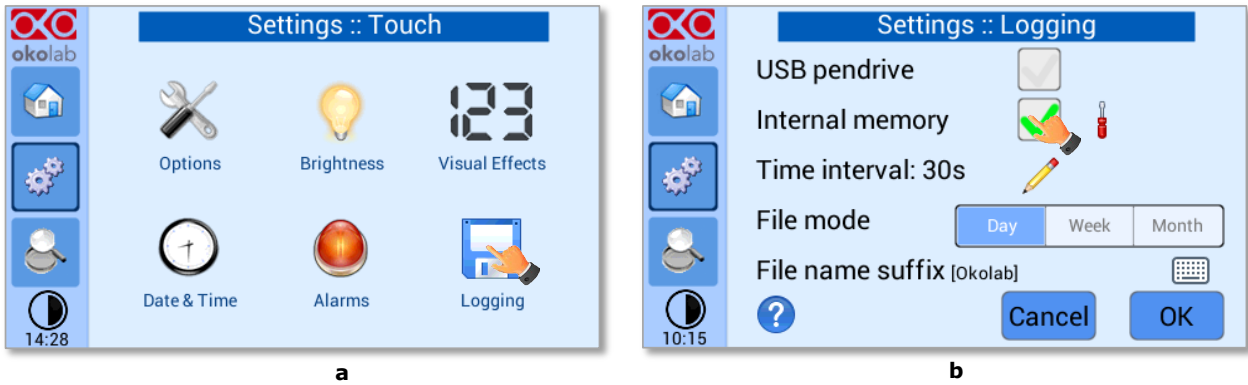

Figure 70. Logging. (a) How to enter in the logging menu; (b) logging in internal memory.
2. Press on *Logging* icon  (see Figure 70 a) and flag *Internal memory* in the page that appears (see Figure 70 b).